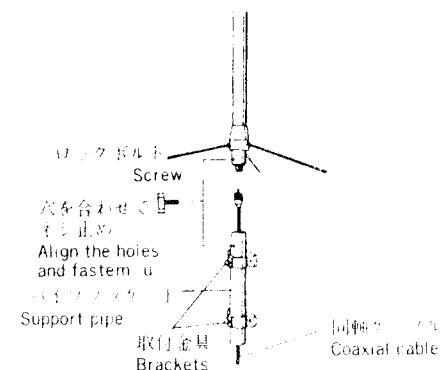

Fig. 3
- Connect coaxial cable with UHF connector to the feed point receptacle through support pipe. And align the holes in the feed point section and support pipe securing with screw as shown in Fig. 3